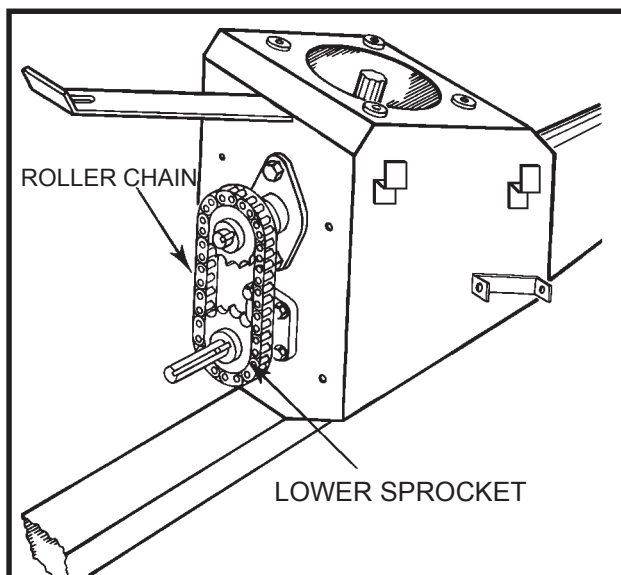

Figure No. 10
7. Loosen four bolts on lower bearing and install chain on sprockets. With chain in place and tensioned to about 1/4" deflection, retighten four bolts on bearing. Oil the chain lightly (see **Figure No. 10**). This step applies to mechanical drive units only.